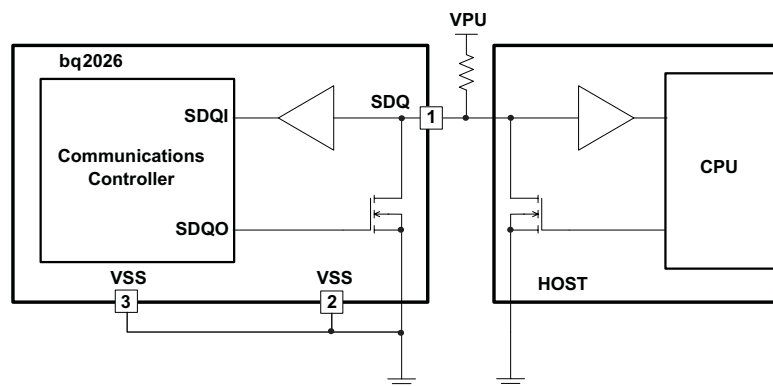

Figure 1. Bus Termination Example for SOT-23 Package
(1) 5-k Ω series resistor between SDQ pin and V_{PU} . (See Figure 1)
Because the drive output of the bq2026 is an open-drain, N-channel MOSFET, the host must provide a source current or a 5-kΩ external pullup, as shown in the typical application circuit in Figure 1.